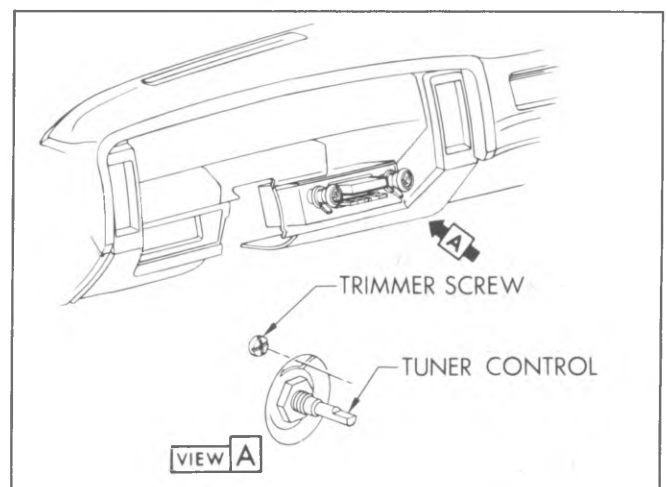

Fig. 9-5R—Trimming Radio
5. Adjust antenna trimmer screw ($\pm 2^\circ$ screw rotation) until maximum volume is received (fig. 9-5R).